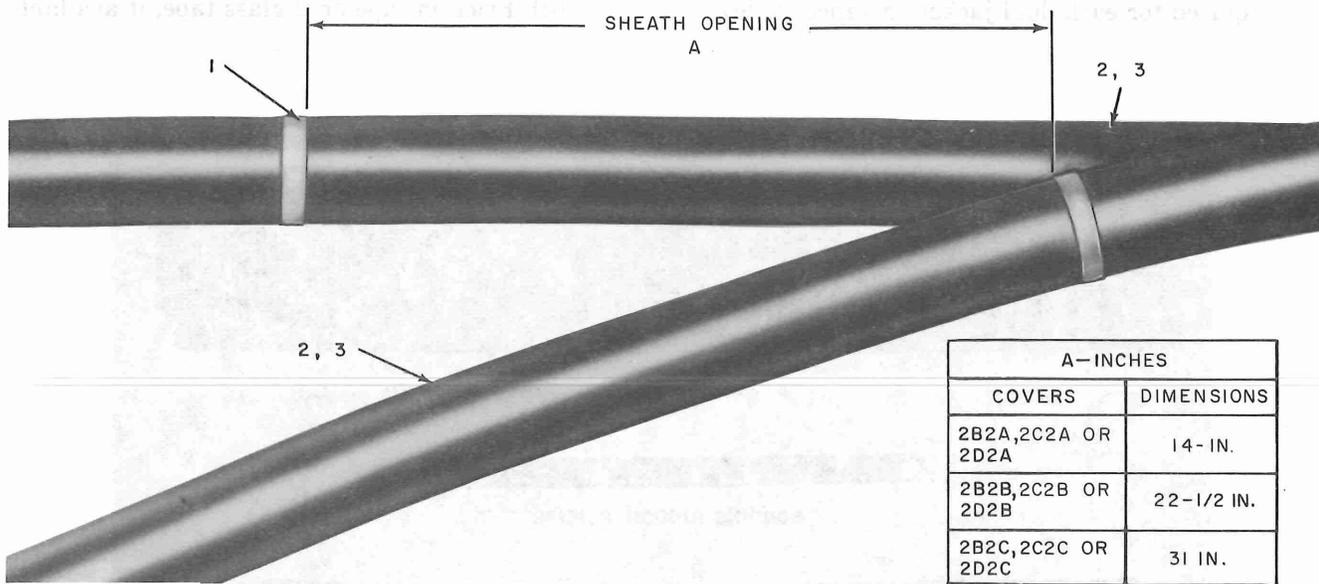

Fig. 14—Mark Cable Sheath and Remove Polyethylene Jacket and Flooding Compound
3.03 Prepare the cable sheath as outlined in Fig. 14 through 19. The wrapped gastight joint should be placed and bonding ribbon installed before splicing.